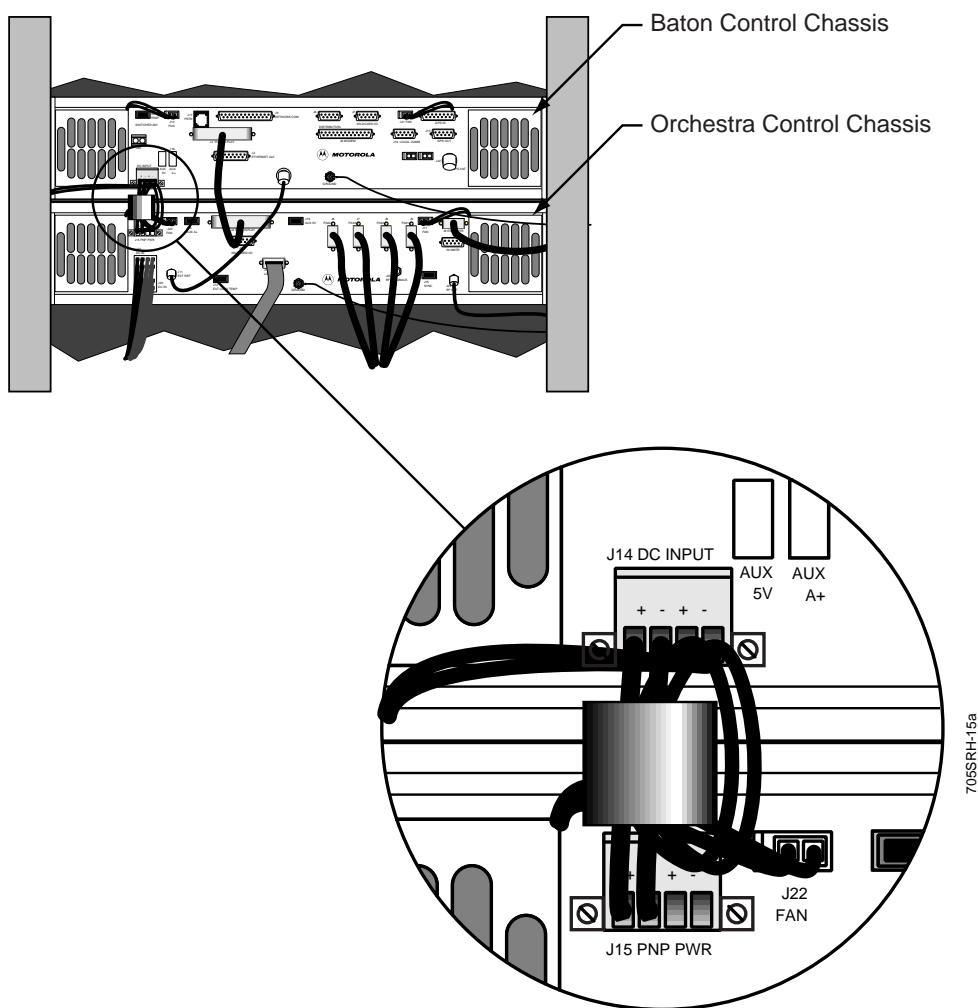

Figure 6-8: Rear View of BCC and OCC
5. Loosen the two screws securing the connector to J14 on the baton control chassis (BCC) back panel (see Figure 6-8).
6. Loosen the two screws securing the connector to J15 on the orchestra control chassis (OCC) back panel (see Figure 6-8).
3. Connect the connector with two wires to J15 on the OCC and tighten the screws (see Figure 6-8).